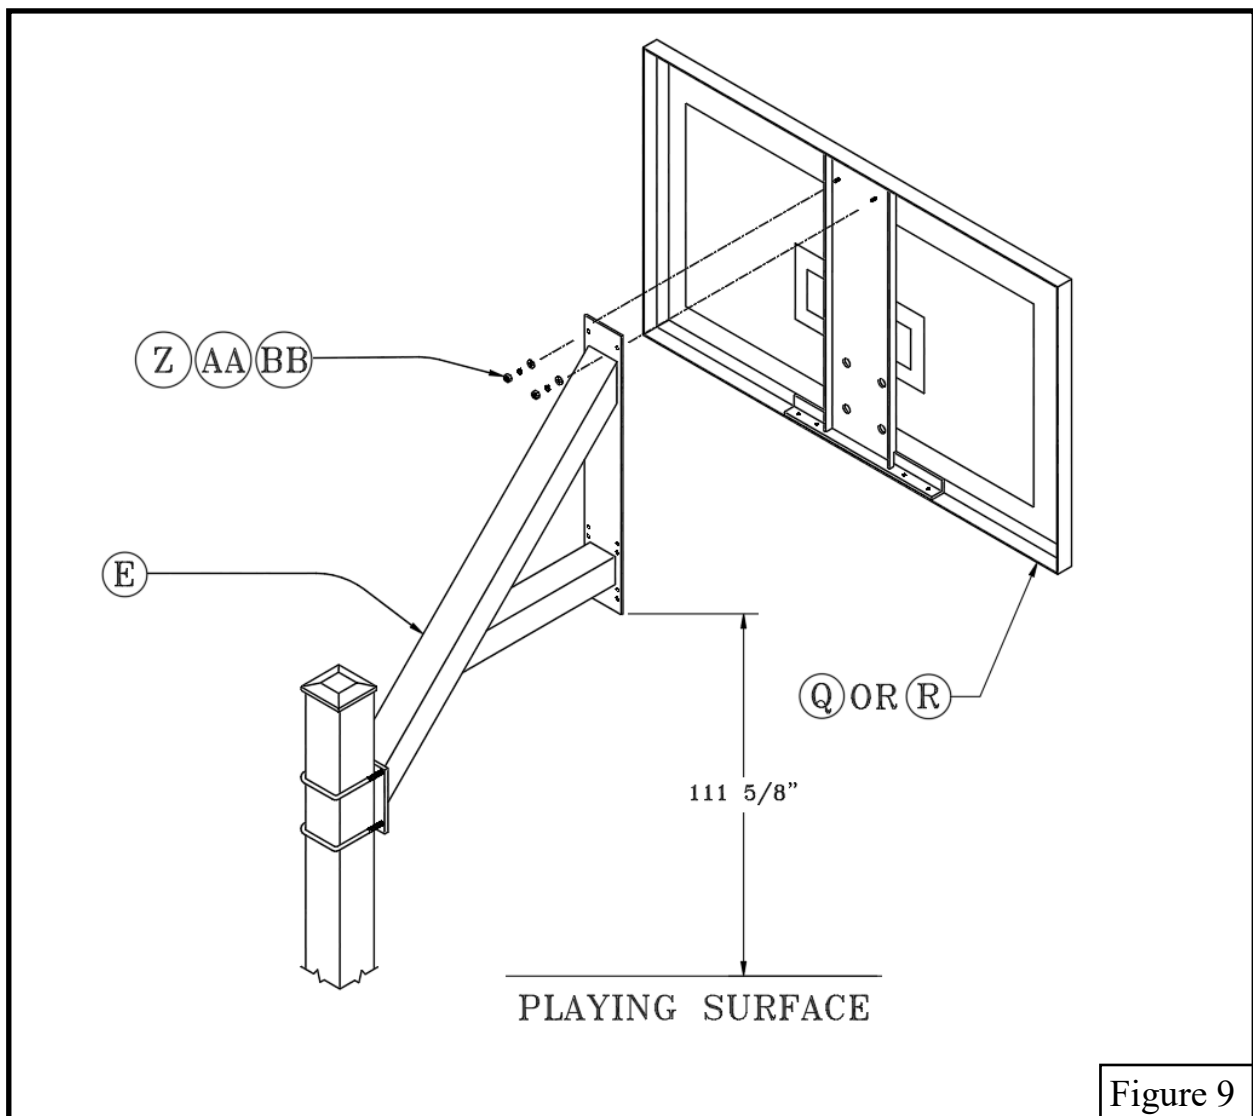

Figure 9
- 23z. Locate the bottom of the backboard mounting plate on the front of the *Extension Arm* (E) **111 5/8"** from the playing surface. See Figure 9.
- 24z. Attach the *BA487X Backboard* (R) or *BA487UX Backboard* (Q) to the *Extension Arm* (E) by placing the two threaded studs in the top of the backboard frame through the hole in the top of the *Extension Arm* (E) and securing with *5/16" Flat Washers* (Z), *5/16" Lock Washers* (AA), and *5/16" Hex Nuts* (BB). Leave hardware loose. See Figure 9.
- 25z. Mount the *Rim* (DD) through the *BA487X Backboard* (R) or *BA487UX Backboard* (Q) and the hole in the *Extension Arm* (E) using the hardware provided with the *Rim* (DD). Make sure that the tubular spacers are installed in the 4 rim holes in the backboard to keep the rim from contacting the backboard surface.
- 26z. Tighten all hardware when backboard and *Rim* (DD) are level.
- 27z. Install *Pole Cap* (F), *Net* (DD), and *Pole Pad* (EE) (if applicable).